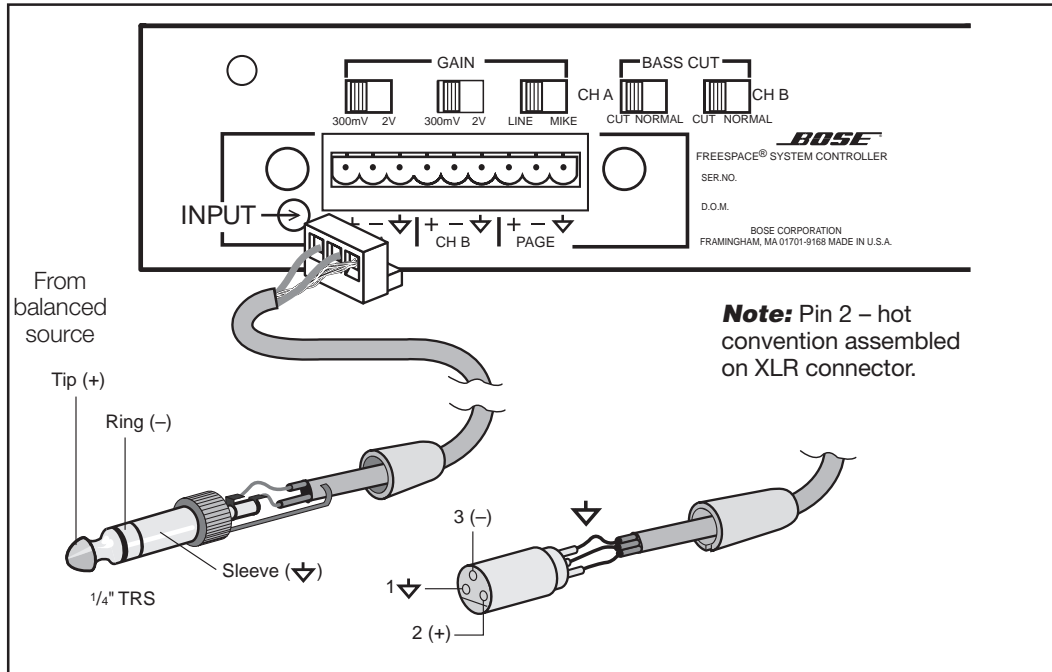

Figure 7
- 2a. If the source has balanced outputs (Figure 7), connect the ground terminal to the ground terminal on the controller.